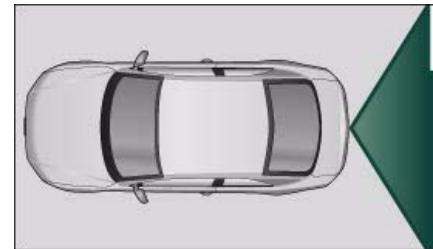
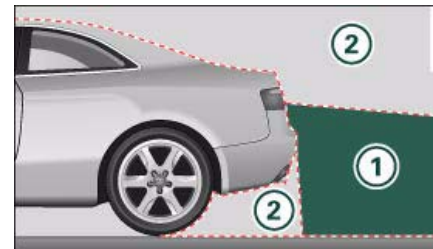

Fig. 158 Viewed from above: Area covered by the reversing camera
Fig. 159 Side view: ①: Area covered by the reversing camera; ②: area NOT covered by the reversing camera
The section of the "Rear View" image shown in the MMI display is roughly the same as the area covered by the camera as shown in ⇒ fig. 158 or ① in ⇒ fig. 159. Objects which are in area ② ⇒ fig. 159 of the reversing camera or in close proximity to the bumper cannot be identified. ▶